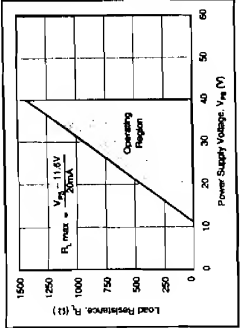

FIGURE 4. Power Supply Operating Range.
6. Always choose R_4 (including line resistance) so that the voltage between pins 7 and 8 ($+V_{CC}$) remains within the 1.6V to 40V range as the output changes between the 4-20mA range (see Figure 4).